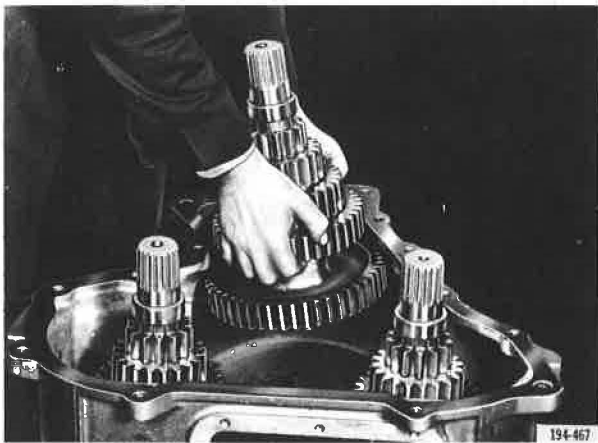

Figure 5-88. Installing Front Countershaft Assembly
1. Position transmission front case vertically and install the three front countershaft assemblies in case. See Figure 5-88.